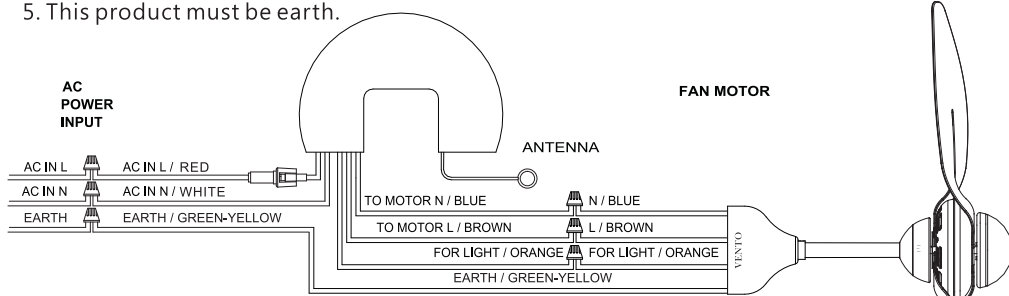

Fig 1
1. Please connect wires according to the diagram below, Fig 1.